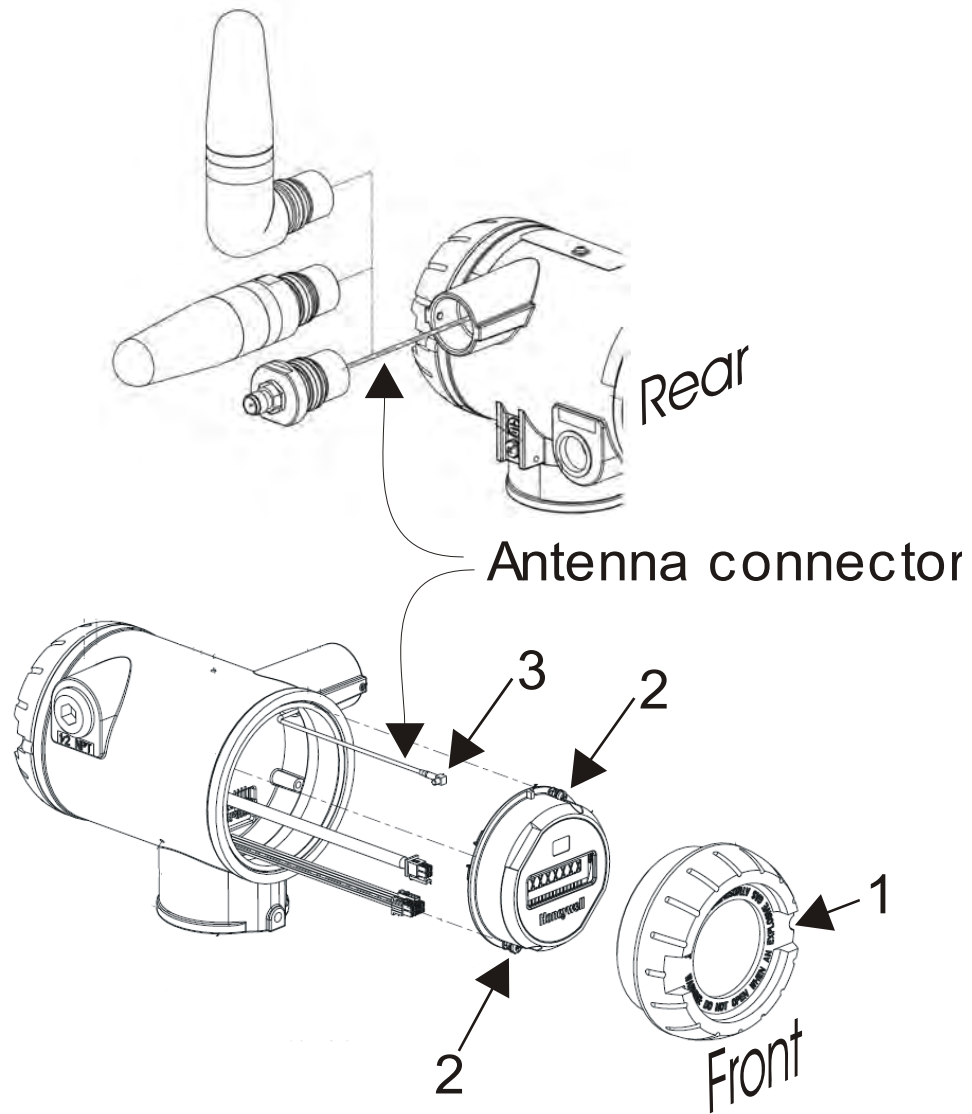

Figure 13 Antenna replacement
2	Loosen the M3 locking set screw on the display end-cap. See item 1 in Figure 13. Unscrew and remove the front end cap.
3	Loosen the two screws on the sensor module. See items 2 in Figure 13.
4	Remove the sensor module from the transmitter body and disconnect the antenna connector from CN2 connector on the sensor module. See item 3 in Figure 13.
5	Loosen the locking set screw at the antenna base. Unscrew the antenna from the transmitter. Remove the antenna and its connector from the transmitter. See Figure 13.
7	Attach antenna connector to CN2 connector on sensor module. See item 3 in Figure 13.
8	Insert sensor module. Orient in the proper viewing orientation before tightening two sensor compartment screws. See items 2 in Figure 13. Torque screws to 0,4 – 0,6 N-M (3.5 – 5.3 Lb-in).